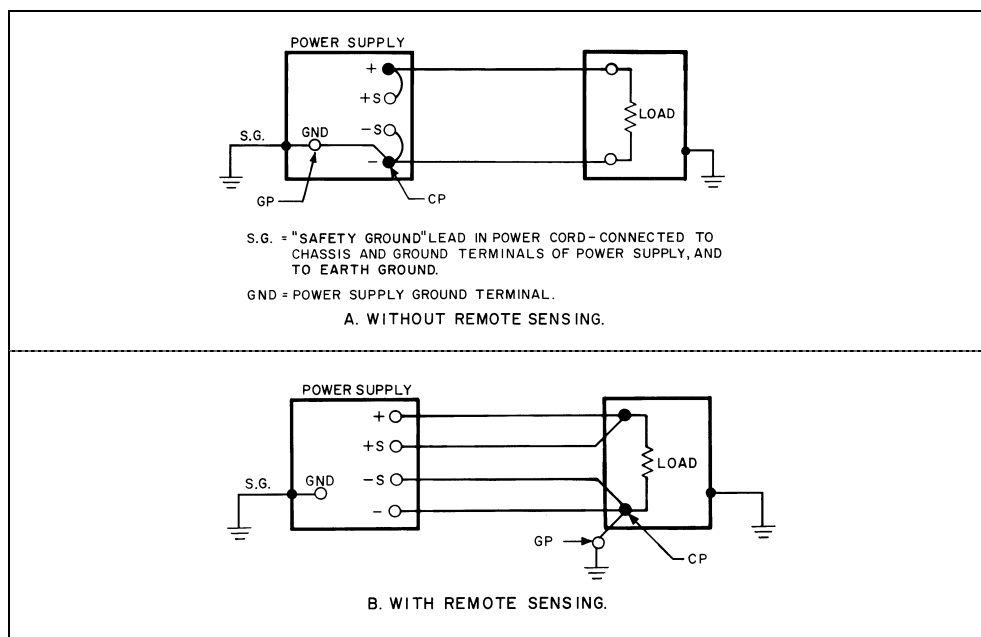

Figure 40. Preferred Ground Connections for Single Isolated Load
- Point (GP).
12. The CP should be connected to the GP as shown in Figures 40 through 43 (unless one load is already grounded), making certain there is only one conductive path between these two points. 72
The CP should be connected to the GP as shown in Figures 40 through 43 (unless one load is already grounded), making certain there is only one conductive path between these two points. This connection should be such that the total impedance from the DC Common for example, be the separate ground terminal located on one of the power supplies or loads in a system, or it may be a special system ground terminal, bus, or plane established expressly for ground connection purposes.
The CP should be connected to the GP as shown in Figure 40 through 43 (unless one load is already grounded), making certain there is only one conductive path between these two points. This connection should be such that the total impedance from the DC Common Point to the DC Ground Point is not large compared with the impedance from the GP to earth ground. Braided leads are sometimes used to further reduce the high frequency component of this ground load impedance.